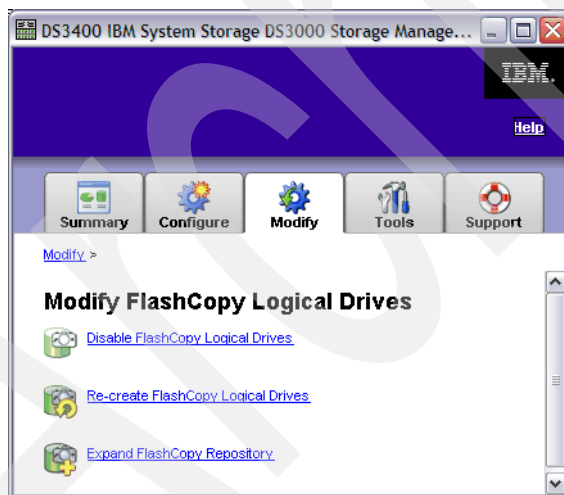
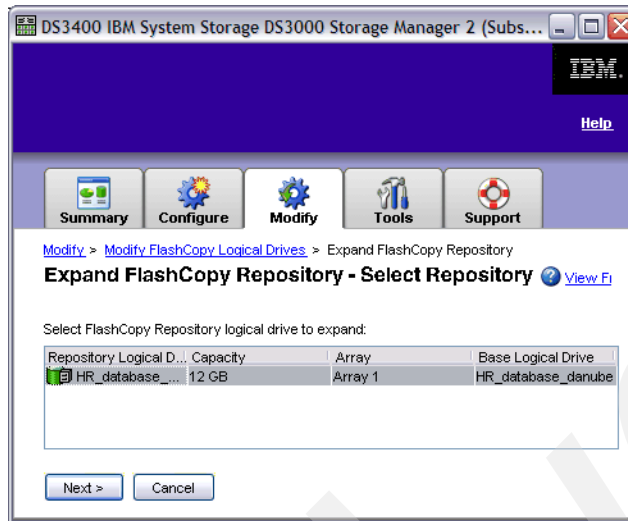

Figure 11-35 Modify FlashCopy Logical Drives
Figure 11-42 Modify - Expand FlashCopy Repository
In 9.4, “Advanced functions - FlashCopy” on page 183, we describe how to create FlashCopy drives. In the Modify FlashCopy Logical Drives link, you can manage and modify FlashCopy drives with the following options, as shown in Figure 11-35:
1. Click **Re-create FlashCopy Logical Drives** (Figure 11-35 on page 243) to display the associated view (Figure 11-39).
1. Click **Expand FlashCopy Repository** (Figure 11-35 on page 243) to display the associated view (Figure 11-42).